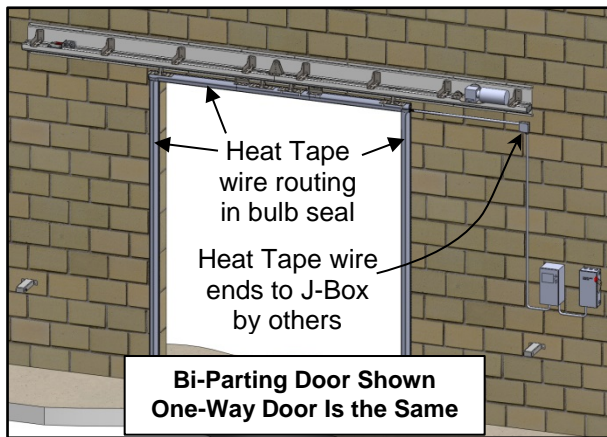

Figure 32
3. Inspect the heat tape that is routed from the frame header to the junction box. The heat tape must not be pinched, kinked, or damaged. (See Figure 32)